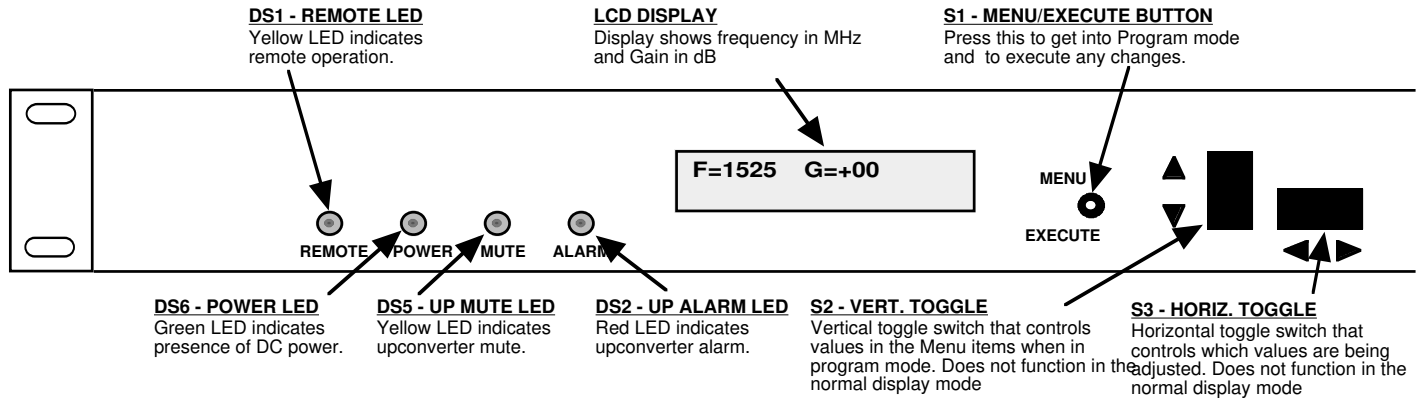

FIGURE 2.2 2015-02 Front Panel Controls and Indicators
Figure 2.2 shows the front panel controls and indicators.
7. Be sure DS6 (green, DC Power) is on and DS2 (red, Alarm) is off (Figure 2.2).
Alarm indications appear on the LEDs (see Figure 2.2).